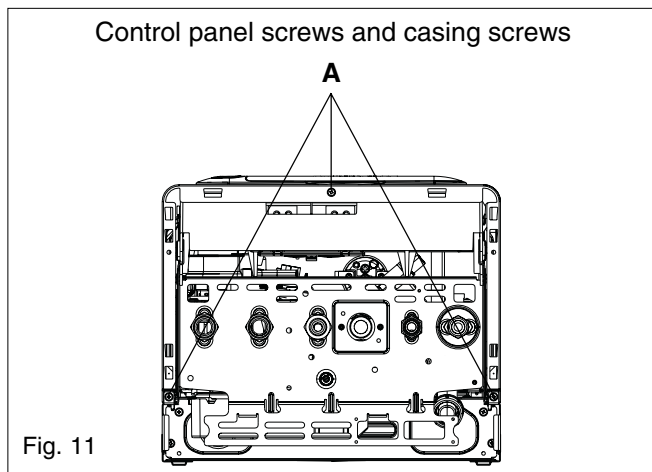

Fig. 11
- locate and unscrew the 3-screws (A) that secure the outer casing to the appliance (see fig. 11)
The appliance terminal block is located on the left side of the control fascia (see fig. 11). Locate and remove the screw that secures the terminal block cover.